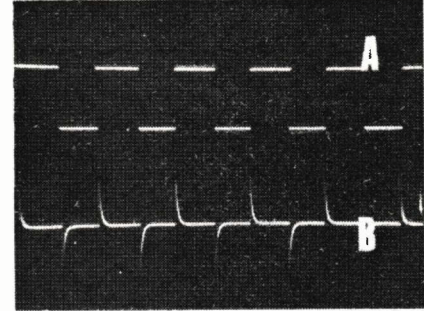

Fig.4. Display of square-waves (A) and marker pips obtained by differentiation. See also Fig.5 and text for further explanation.
Finally Fig. 4 shows five complete cycles of a square-wave at a frequency of 1000 Hz (A). What is the duration of the time base? Each complete cycle is 1 ms so the timebase speed is 5 ms, (just over in fact as another quarter-cycle appears at the extreme right). The waveform (B) below, shows marker pips, derived by differentiation of the square-wave. These are more convenient for calibration of a timebase of unknown duration. The square-wave is simply passed through a CR circuit (Fig. 5) and the positive or negative-going pulses can be rectified out.